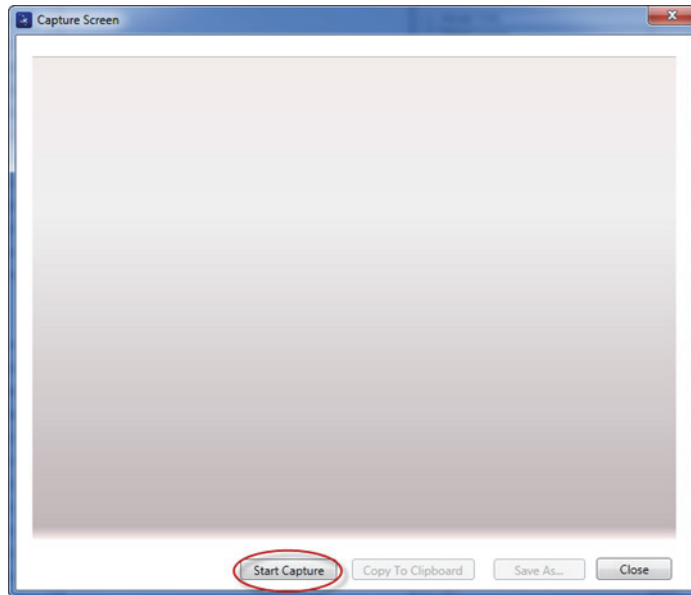

Figure 6-7 The Capture Screen dialog box
The **Capture Screen** dialog box opens (see Figure 6-7 on page 307).
4. In the **Capture Screen** dialog box, click **Start Capture** (see Figure 6-7 on page 307).